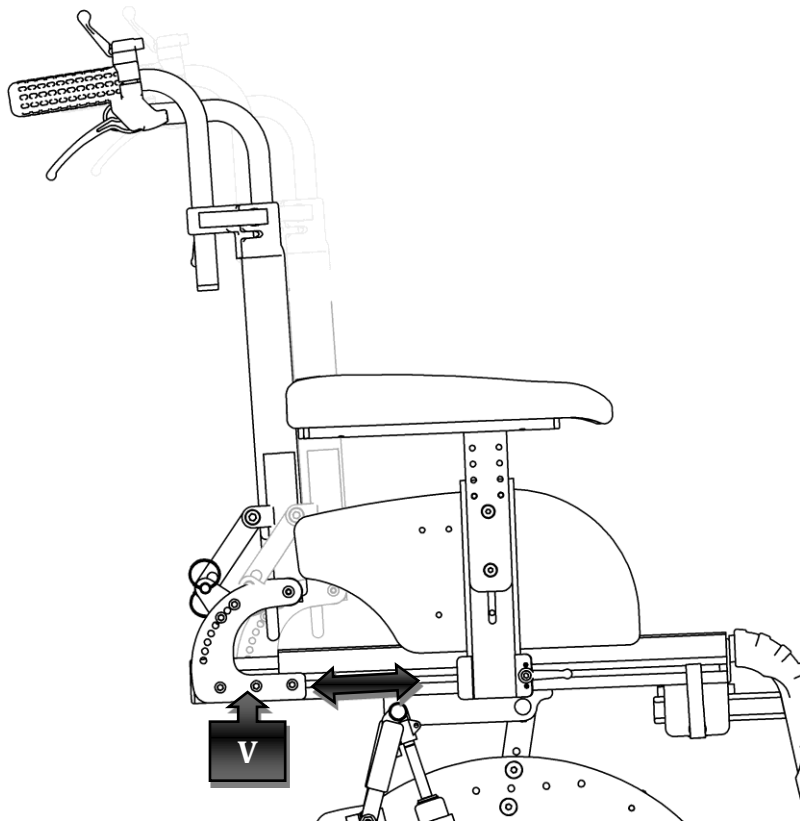

Figure 12
For the best comforts you can adjust the backrest depth as shown in Figure 12 using the screws (V).